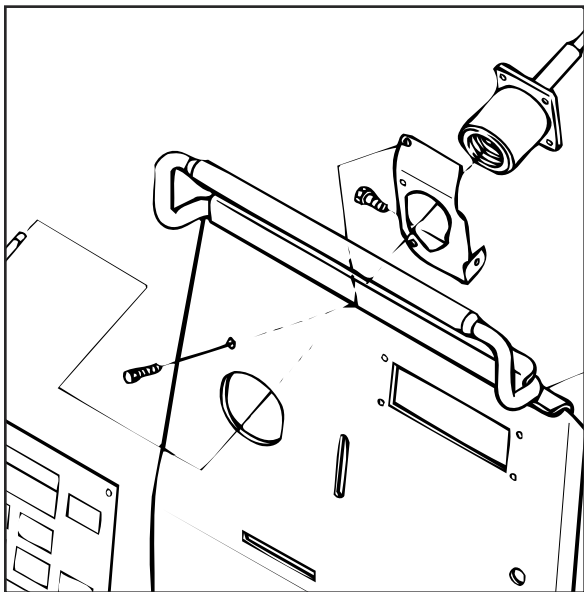

FIGURE F.14 - Location of Screw Holding the Gun Connector Assembly to the Case Front Panel.
5. Remove the screw holding the gun connector assembly to the Case Front Panel. See Figure F.14.